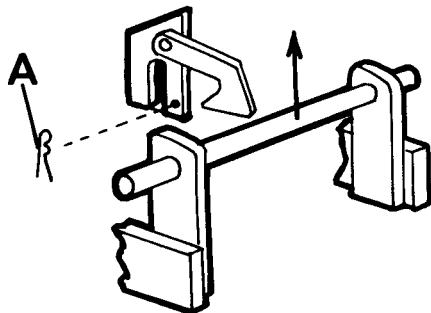

FIG. 2
2. Refer to FIG. 2.
Take the Sub-Frame with Crossmember and Hydraulic Pump attached. Remove tape from around Hoses. Pin the rear end of the Sub-Frame to the Adapter Brackets just attached to tractor with (2) 3/4 x 2 1/2" Hitch Pins (A) and (2) #11 Clip Pins (B). Raise front end of Sub-Frame and fasten cross bar into the mower attachment brackets on tractor. Lock in place with (2) #11 Clip Pins (A). (see Fig. 2) Go back and tighten all Bolts.